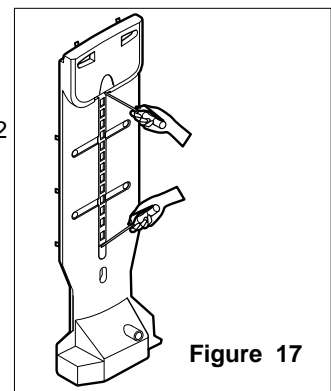

Figure 17
1. Remove the upper and lower caps by using a flat screwdriver, and remove 2 screws. (Figure 17)